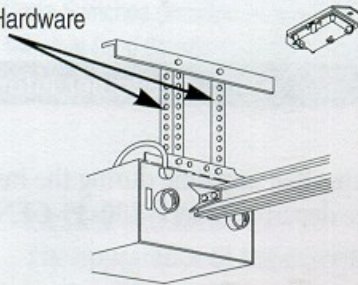

Figure 2-1
Step 1 • **POSITION** the Receiver on the ceiling above the opener, 1-2 feet in front of the mounting hardware. (Figure 2-1)